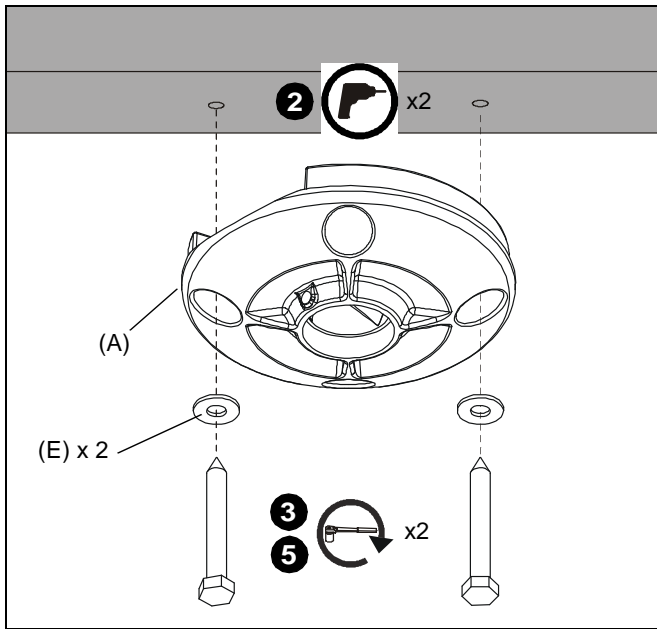

Figure 2
- Drill 1/4" (6.4mm) diameter pilot holes into wood joist (See Figure 2). Ensure pilot holes are straight.
- Using 9/16" (14.3mm) socket wrench, loosely install 3/8" x 2-1/2" (9.5mm x 63.5mm) lag screws through 5/16" (7.9mm) washers (E), plate (A), into wood joist (See Figure 2). Do not tighten plate (A) against ceiling at this time to accommodate cable installation.
- Tighten lag screws (See Figure 2).